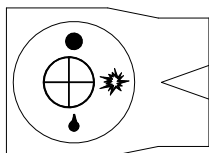

Figure 2 - Gas Supply Control Positions
Situated at top side of multifunctional control, control knob is set correctly when appropriate symbol is alongside pointer. (See Figure 2)
- Push control knob in and turn to pilot position. (See Figure 2)
- Turn control knob to MAIN position (Figure 2) and check burner lights.
Return control knob to pilot position (see Figure 2). This will extinguish main burner whilst leaving pilot lit.
Push control knob in and turn to OFF position. (Figure 2)
When work is complete, the knob should be returned to pilot position (See Figure 2) leaving pilot lit if required.